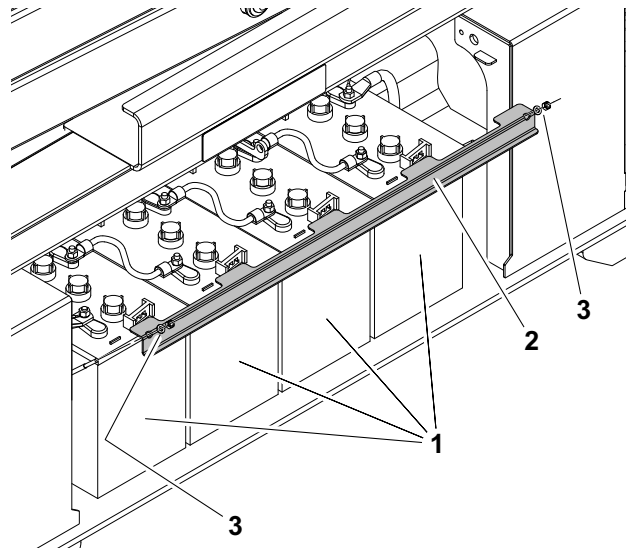

Figure 3-2. Battery Location and Hold Down Bar (All Models)
3. To remove one or more batteries from the machine, the battery hold down bar will need to be removed. (See Figure 3-2.)
4. Remove the (2) nuts and washers from each hold-down anchor at the ends of the hold-down bar. Remove the bar and lay aside.